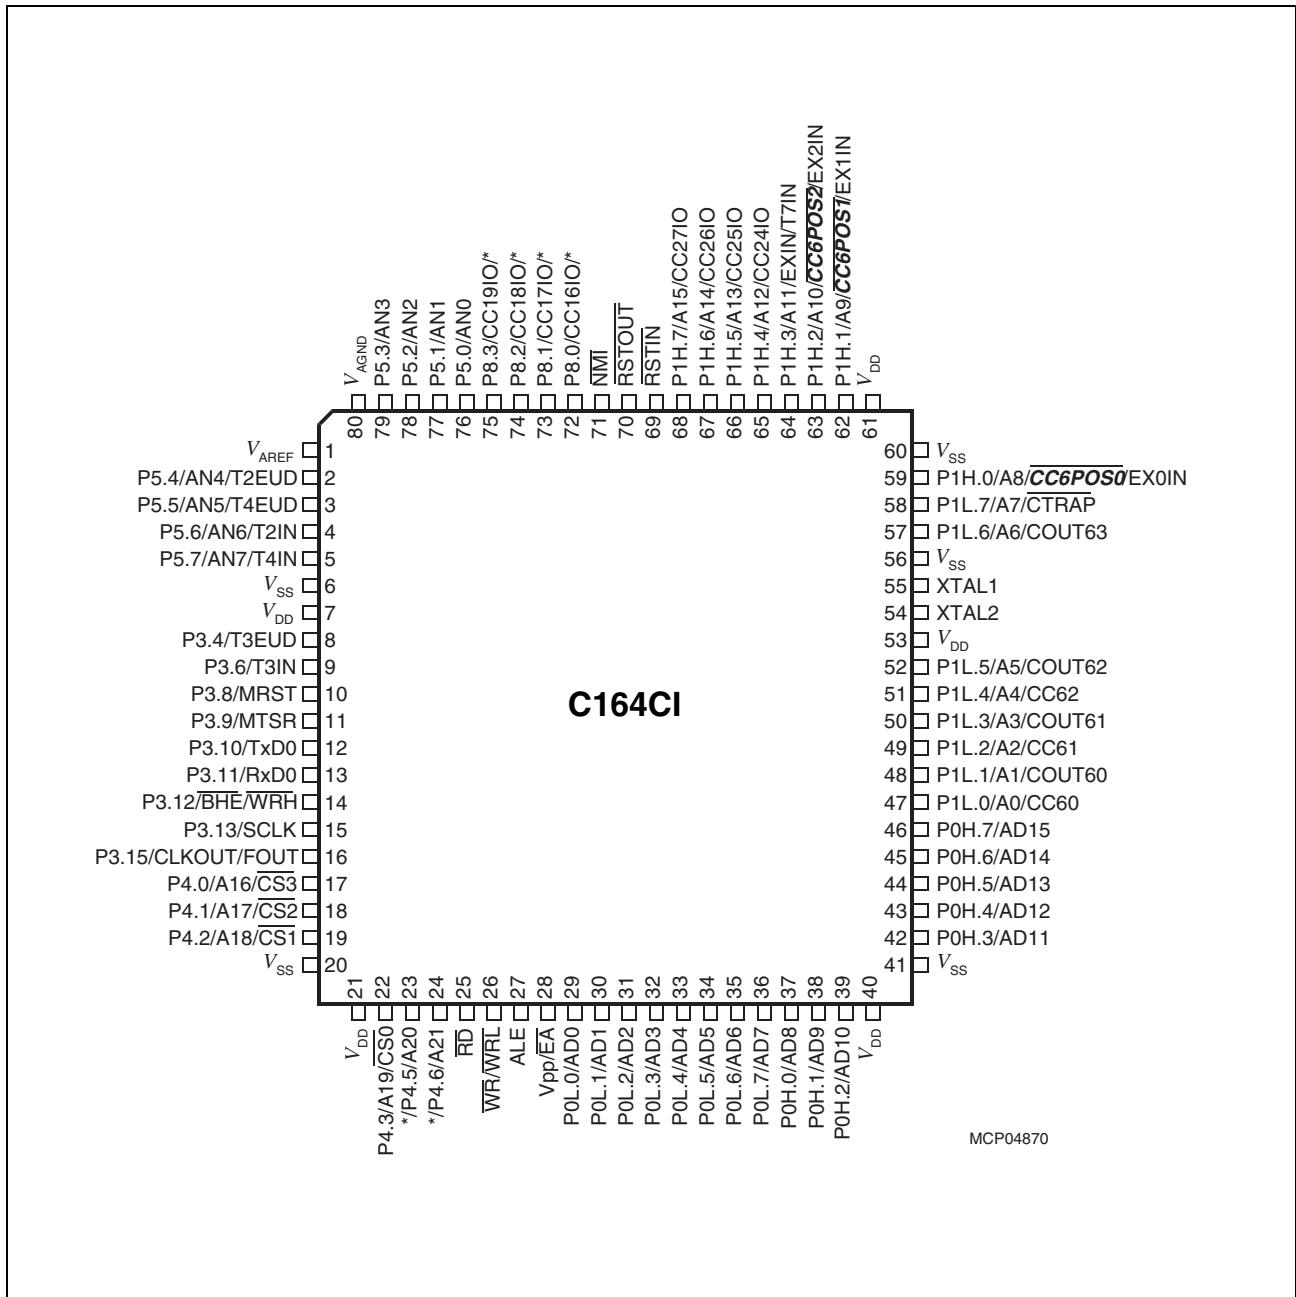

Figure 25-1 Pin Configuration for C164CI, P-MQFP-80 Package
Figure 25-1 shows the pin diagram of the C164CI. It shows the location of the various supply and IO pins. Detailed descriptions of all pins are also found in the Data Sheet.
*Note: Not all alternate functions shown in **Figure 25-1** are supported by all derivatives. Please refer to the corresponding descriptions in their data sheets.*